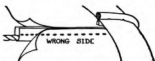
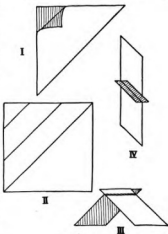

FIGURE 83
FIGURE 104
*Corded Seams* (Figure 83). — A cord is covered with a bias strip (Figure 104) and placed between the two edges of a plain seam. Because of the cording the seam must be stitched by hand or with a one-sided presser foot in order that the cording may be firmly held in the seam.
*True Bias* (Figure 104). — To mark a true bias, fold the material diagonally so that the warp thread lies parallel to the woof or filling thread (I). With a warm iron crease the folded line of bias and mark on the wrong side of material from the crease and parallel to it, the desired width of the bias strips (II). Cut on the marked lines and join the strips by placing them together so that the ends meet, forming right angles; baste  $\frac{1}{4}$  inch from the edge (III). If the material has a design, care must be taken to have the designs match. Stitch the strips by hand or machine  $\frac{1}{4}$  inch from the edge, remove the bastings, and, with a warm iron, press the seam open (IV).
$\frac{1}{2}$  inch for seam allowance. To match the strips, follow the directions for true bias (Figure 104).
edges and are best when cut to match the grain of the material. Cut the facing the desired width and length of the article to be faced and apply as for bias facing (Figure 104).
cut the facing exactly to fit it and apply as for bias band (Figure 104). The facing may be of any width and may be used for decoration, in which case it appears on the right side instead of the wrong side of the garment.